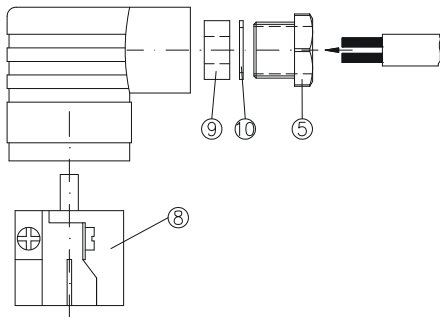
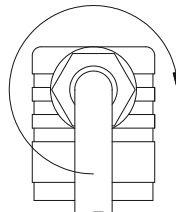

Fig. 5.2.4
Fig. 5.2.5
- ✚ Insert the supply cable through the screwed cable gland ⑤, the pressure ring ⑩ and the rubber insert ⑨ into the cable socket ② (→ Fig. 5.2.4).
- ✚ Press the core ⑧ into the cable socket ② until it locks into place.
- ✚ Put the central screw ⑥ in the cable socket ② and tighten the screwed cable gland ⑤ (→ Fig. 5.2.5).